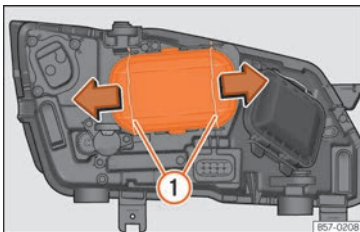

Fig. 55 In the engine compartment: remove the cover.
- Move the loops **»» Fig. 55 ①** in the direction of the arrow and remove the cover.